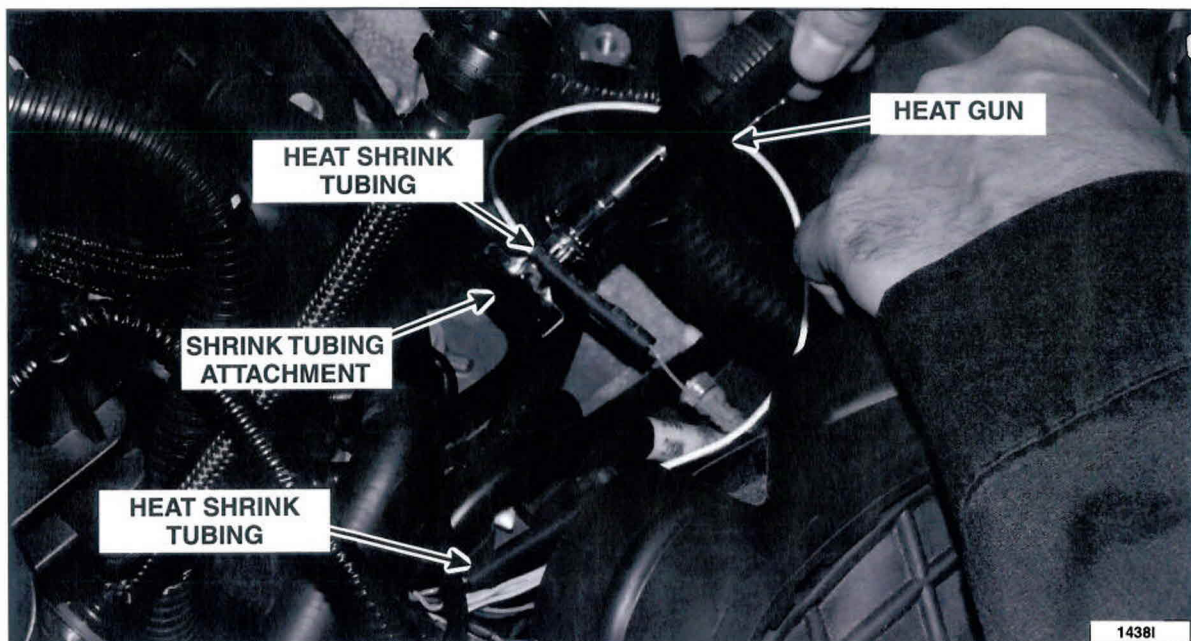

FIGURE 11
14. Position the heat shrink tubing over both ends of the splice wire. Use a suitable heat gun such as Rotunda Shielded Flameless Heat Gun with Heat Deflector, number NAIAT-R5902, that is equipped with a shrink tubing attachment, to heat the heat shrink tubing until the sealant comes out of both ends. See Figures 11 and 12.